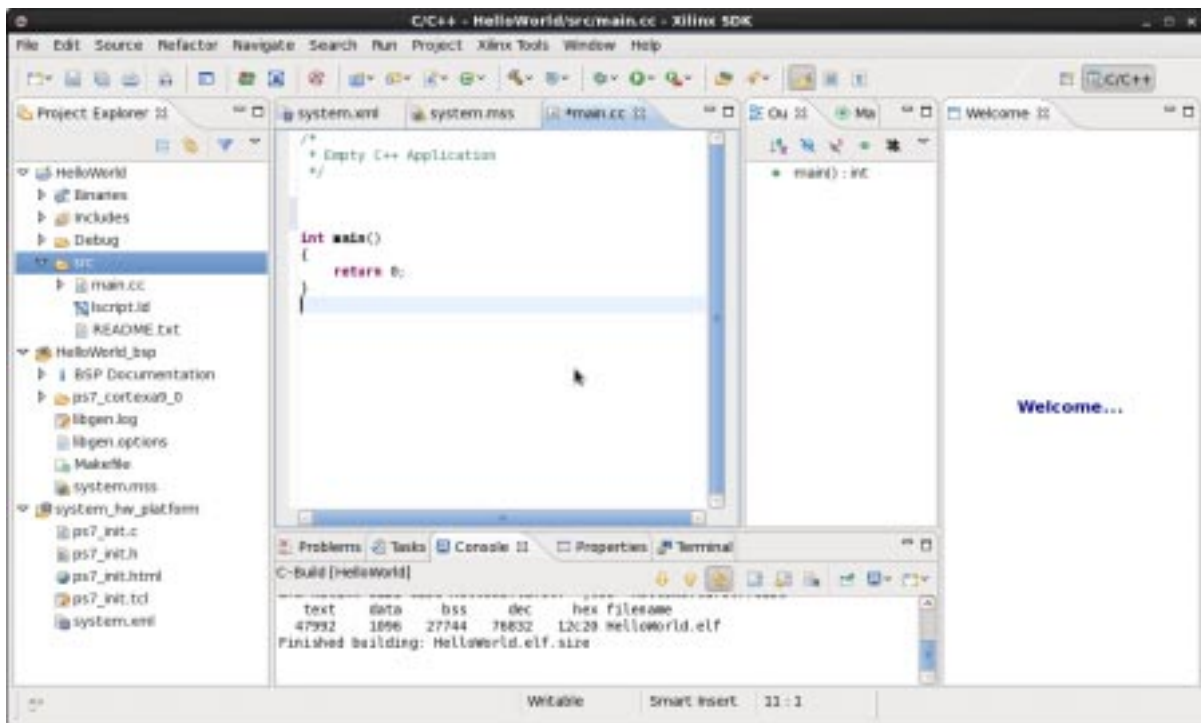

Figure 15: SDK window with main.cc in editor pane.
7.3 To view the C++ source code (main.cc), choose the HelloWorld project in the top left hand pane of SDK and expand the source tab and select main.cc. An empty C++ program will appear in the middle pane of SDK as shown in Figure 15.